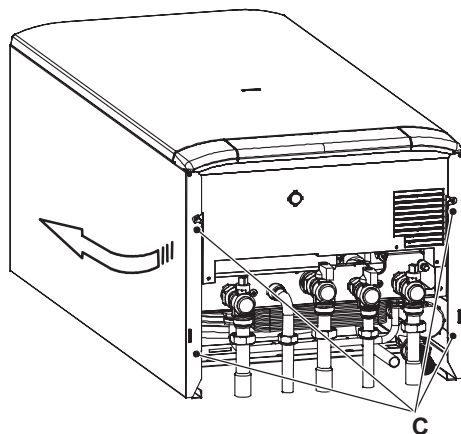

Fig. 9.2
- Loosen the screws C. Bring the bottom of the panels away from the boiler and lift them, freeing them from the top hooks (Fig. 9.2).